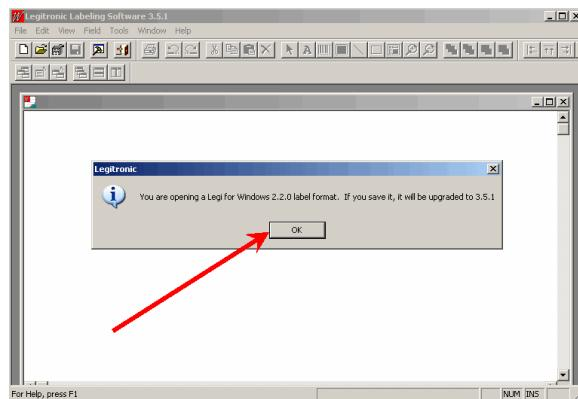

Figure 50
60. Click OK when the message "You are opening a Legitronic Labeling Software for Windows 2.2.0 label format. If you save it, it will be upgraded to 3.5.1" appears. (Figure 50)